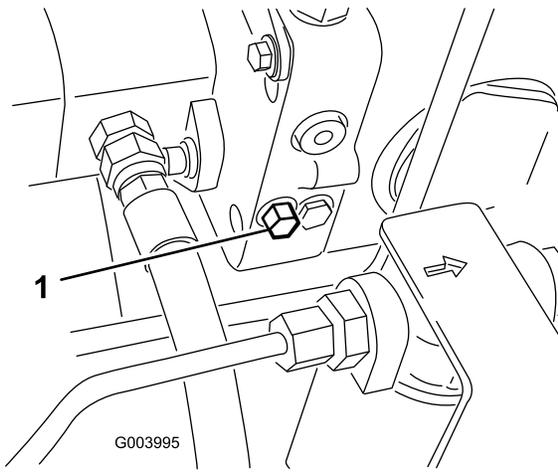

Figure 56
1. Rotate the bypass-valve bolt 1-1/2 turns to open and allow oil to bypass internally (Figure 56).